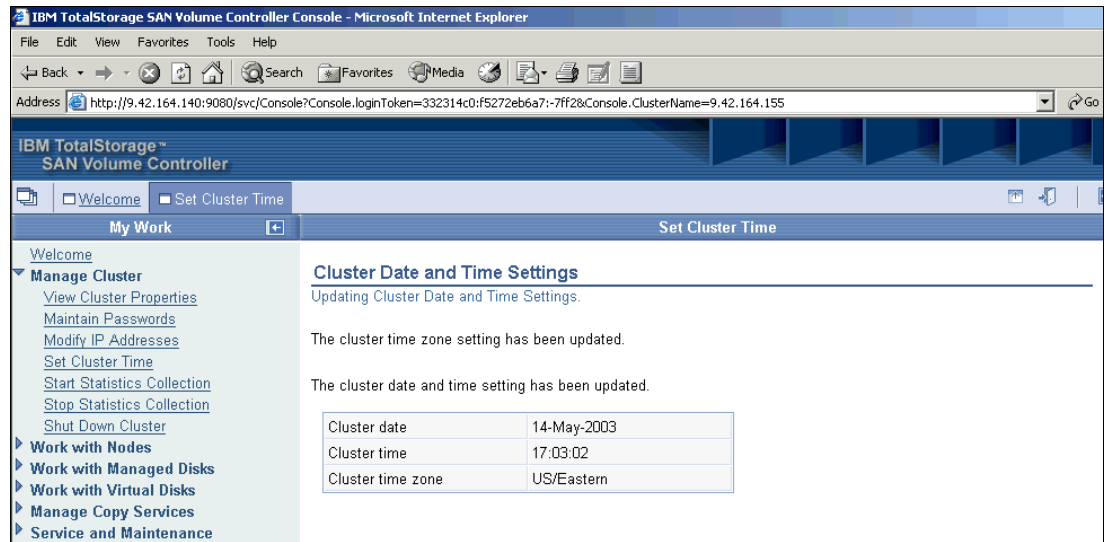

Figure 9-12 Cluster Date and Time Settings update confirmation
3. You return to the Cluster Date and Time Settings panel (Figure 9-12), which shows the new settings.